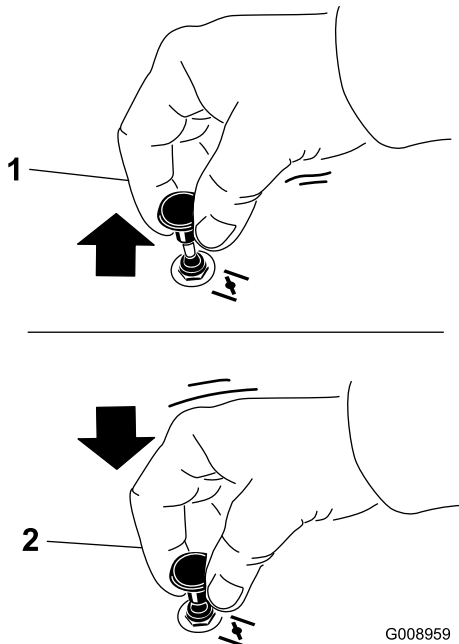

Figure 17
2. Pull up the choke knob to engage the choke before using the ignition switch (Figure 17).
3. Push down the choke to disengage the choke after the engine has started (Figure 17).